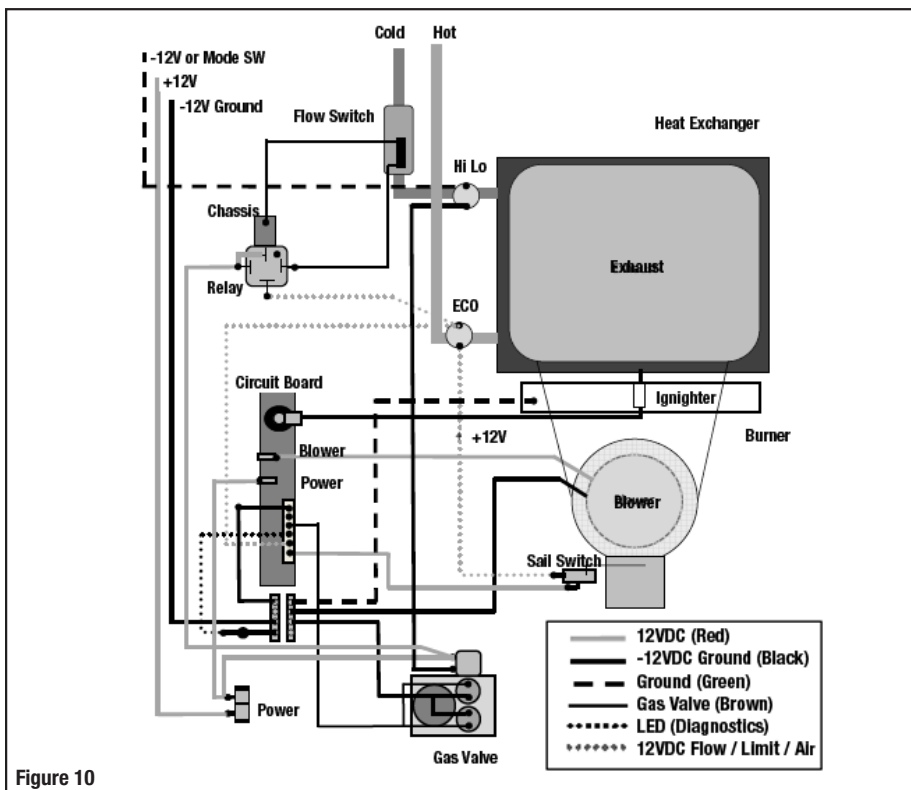

Figure 10
- 2. Figure 10:** A wiring diagram with all electrical components showing all interconnections and the wire colors adopted.